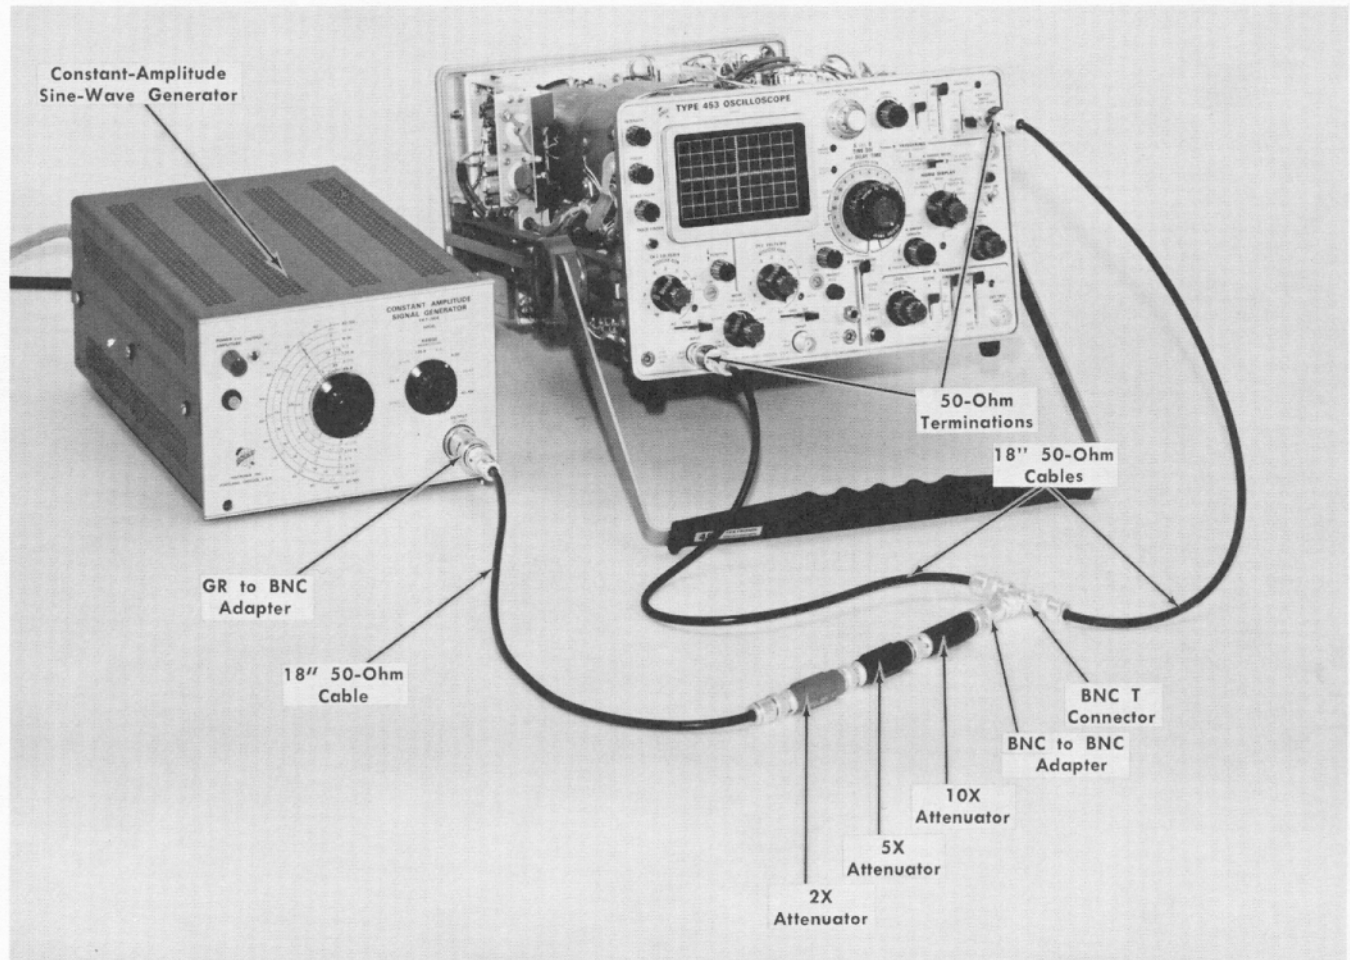

Fig. 6-36. Initial test equipment setup for steps 31 through 33.
- a. Test equipment setup is shown in Fig. 6-36.